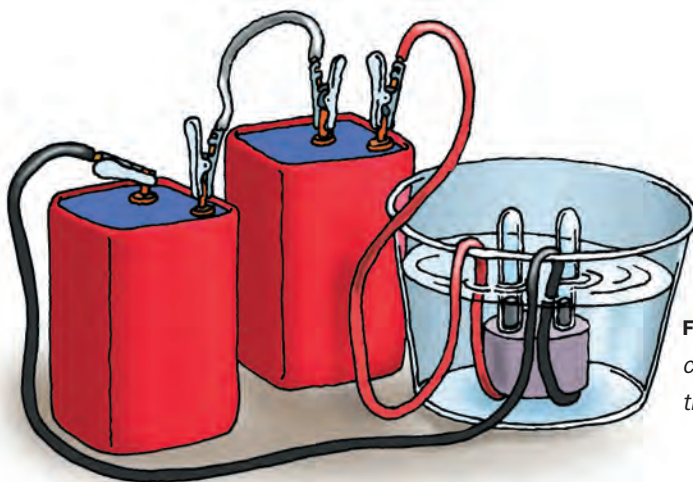
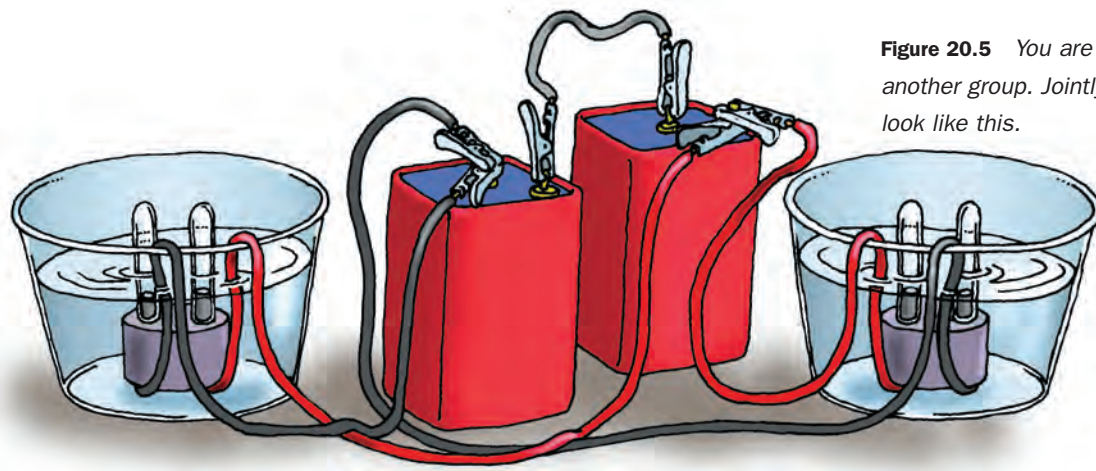

Figure 20.4 Clip the connector wires onto the batteries as shown.
Figure 20.5 You are sharing batteries with another group. Jointly, your apparatus should look like this.
10. Clip the connector wires onto the batteries. Clip the red connector wire to the positive terminal of one battery and the black connector wire to the negative terminal of the other battery. Make sure the two remaining terminals on the batteries are connected. (See Figure 20.4.) You will be sharing the two batteries with another group. Figure 20.5 shows how to set up the apparatus for both groups.